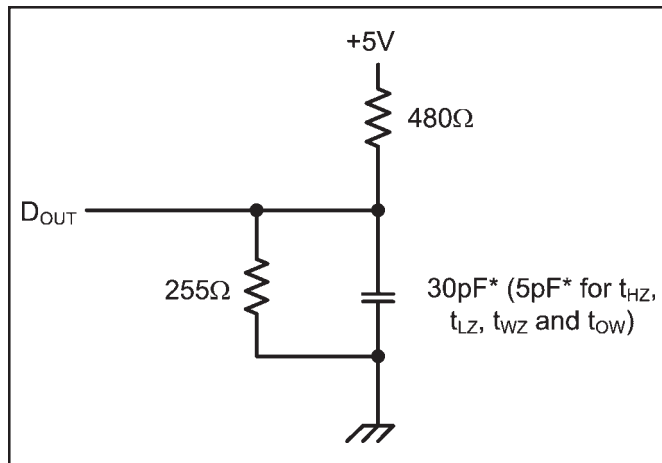

Figure 1. Output Load
- 7. Transition is measured $\pm 200\text{mV}$ from steady state voltage prior to change with specified loading in Figure 1. This parameter is sampled and not 100% tested.
- 13. Transition is measured $\pm 200mV$ from steady state voltage prior to change with specified loading in Figure 1. This parameter is sampled and not 100% tested.
Output Load	See Figures 1 and 2